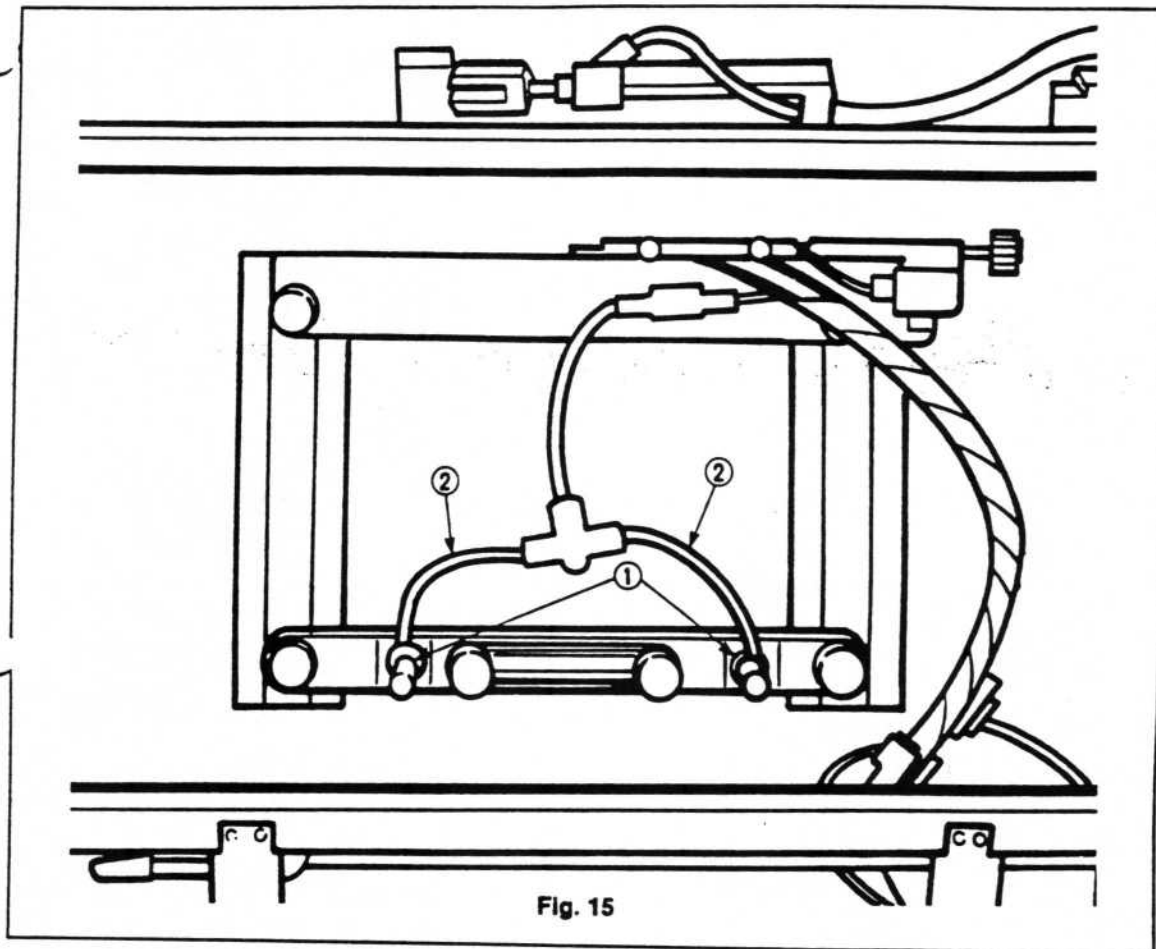

Fig. 15
The backup pin ①, shown in Fig. 15, requires lubrication.
1. Remove the air tube ② (see Fig. 15).